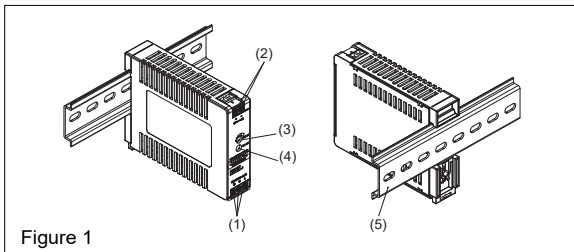

Figure 1
**2. Device description (Fig. 1)**